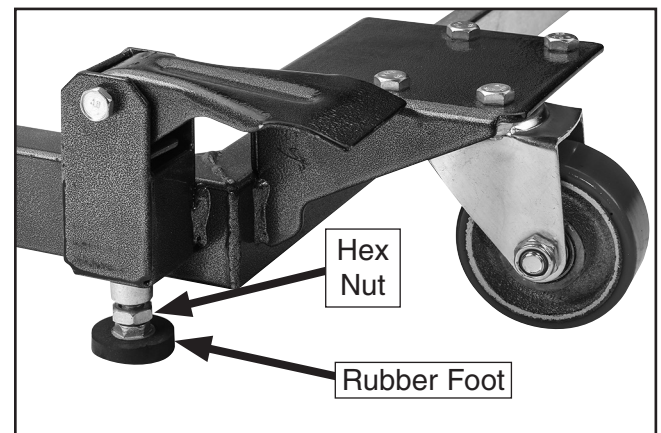

Figure 22. Rubber foot and hex nut adjustment.
The height of the rubber feet can be adjusted to stabilize the machine. To ensure the machine does not move during operations, always make sure the adjustable rubber feet (see **Figure 22**) are firmly touching the ground before operating the machine.
1. Loosen hex nut on each foot to allow foot (see **Figure 22**) to move up or down as needed.